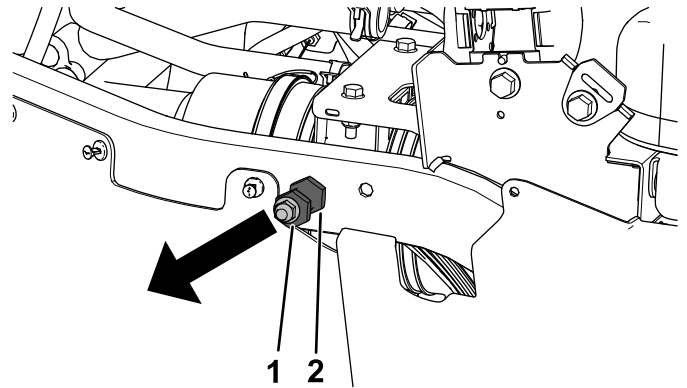

Figure 41
5. Remove the locknut (3/8 inch) and latch pin from the right and left, rear frame tubes (Figure 41).